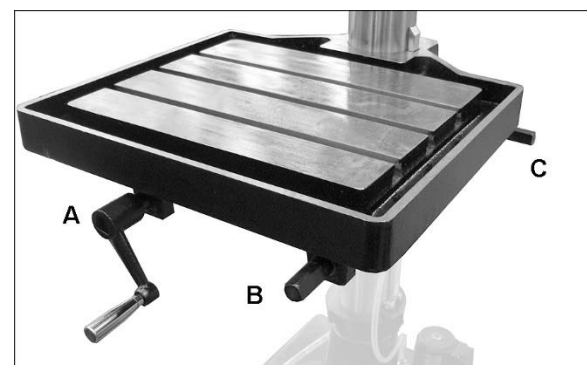

Figure 8-2: table adjustments
3. Loosen table lock by placing handle on crankshaft (see A, Figure 8-2) and rotating handle counterclockwise.
4. Raise table by placing handle on crankshaft (B or C, Figure 8-2) and rotating clockwise.
The table can be raised or lowered to accommodate workpiece height. Place hand crank on shaft (A, Figure 8-2) and turn to loosen table lock. Then use hand crank on shaft B or C to raise or lower table. Lock table in position using shaft A.